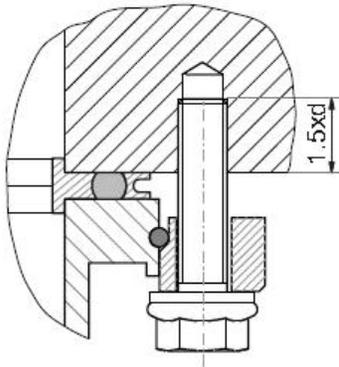

Figure 6.8 Connection of ISO K flange and blind threaded hole
- (1) Check the flange sealing surface to ensure that there is no damage before installation;
- (2) Apply loose flange and retainer onto the turbomolecular pump inlet flange in turn;
- (3) Place center support/positioning ring and rubber ring in the turbomolecular pump inlet flange (ISO K flange) along the central line. Center support is not necessarily used in the turbomolecular pump inlet flange with reserved gasket groove;
- (4) Use appropriate number of hexagonal bolts (or stud + nut) to fix turbomolecular pump as shown in figure 6.8.